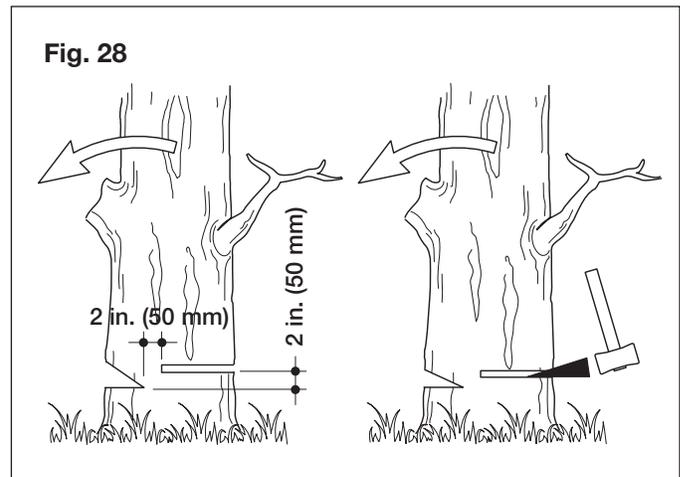

Fig. 28
Make the notch 1/3 the diameter of the tree, perpendicular to the direction of falls as illustrated (Fig. 28).
- Make the felling back cut at least 2 in. (50 mm) higher than the horizontal notching cut as illustrated (Fig. 28). Keep the felling back cut parallel to the horizontal notching cut. Strategically position the felling back cut so that enough wood is left to act as a hinge. The hinge wood keeps the tree from twisting and falling in the wrong direction. Do not cut through the hinge.